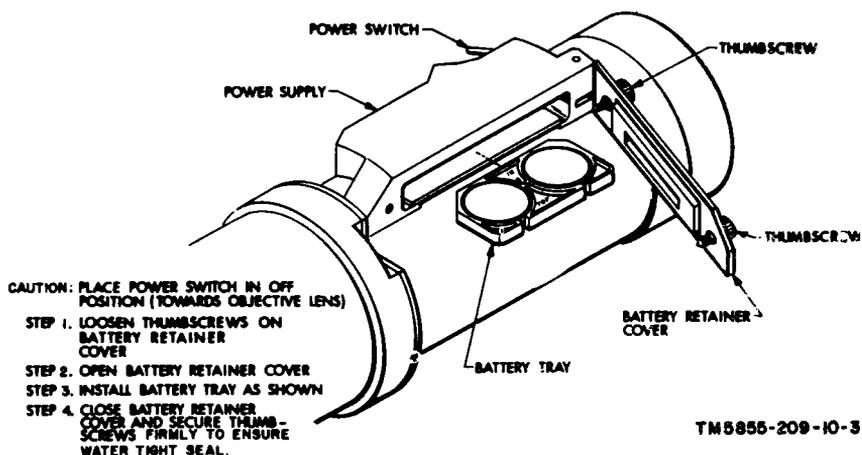

Figure 2-1. Installation of battery tray.
(Fig. 2-1)
- b. Install the battery tray as shown in figure 2-1.
- c.* Replacing battery tray (fig. 2-1).